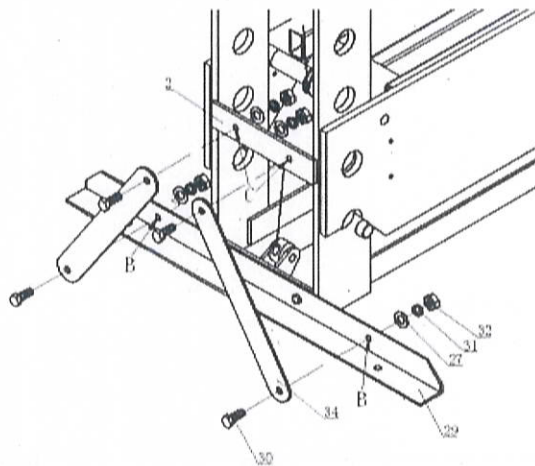

Fig. 2
11.1.2 Fix the 4pcs supports (34) to the body frame part B and C by using hex bolt M12X30 (30) , washer  $\phi$  12 (27)、spring washer  $\phi$  12 (31) and hex nut M12 (32) .(refer to fig.2)